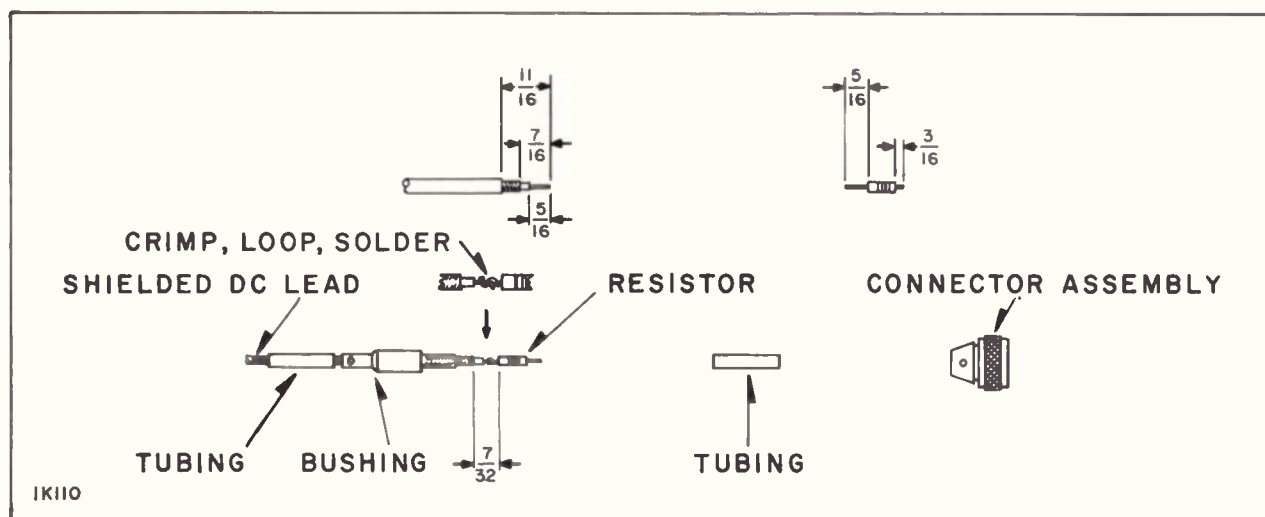

Figure 4. 1Z7 Connector Cap Assembly
Note that directional coupler 1Z7 is not provided with pressurized fittings. If a pressurized harmonic filter is used, 1Z7 must be installed in the line between the transmitter and harmonic filter. During installation of 1Z7, it will be necessary to assemble the connector cap assembly (see figure 4) and install the dc output lead, supplied as part of Power Determining Components, MI-560510A. The dc output lead is then connected at terminal 1TB1-11 (located at the top of the basic transmitter rack, MI-560507A), with the braid grounded.
The cap assembly supplied with the coupler consists of a connector, bushing, resistor and two lengths of tubing. These parts must be attached to the shielded dc indicator lead as illustrated in figure 4. The following procedure is recommended when assembling the connector cap.
1. Strip the shielded dc indicator lead as shown in figure 4.